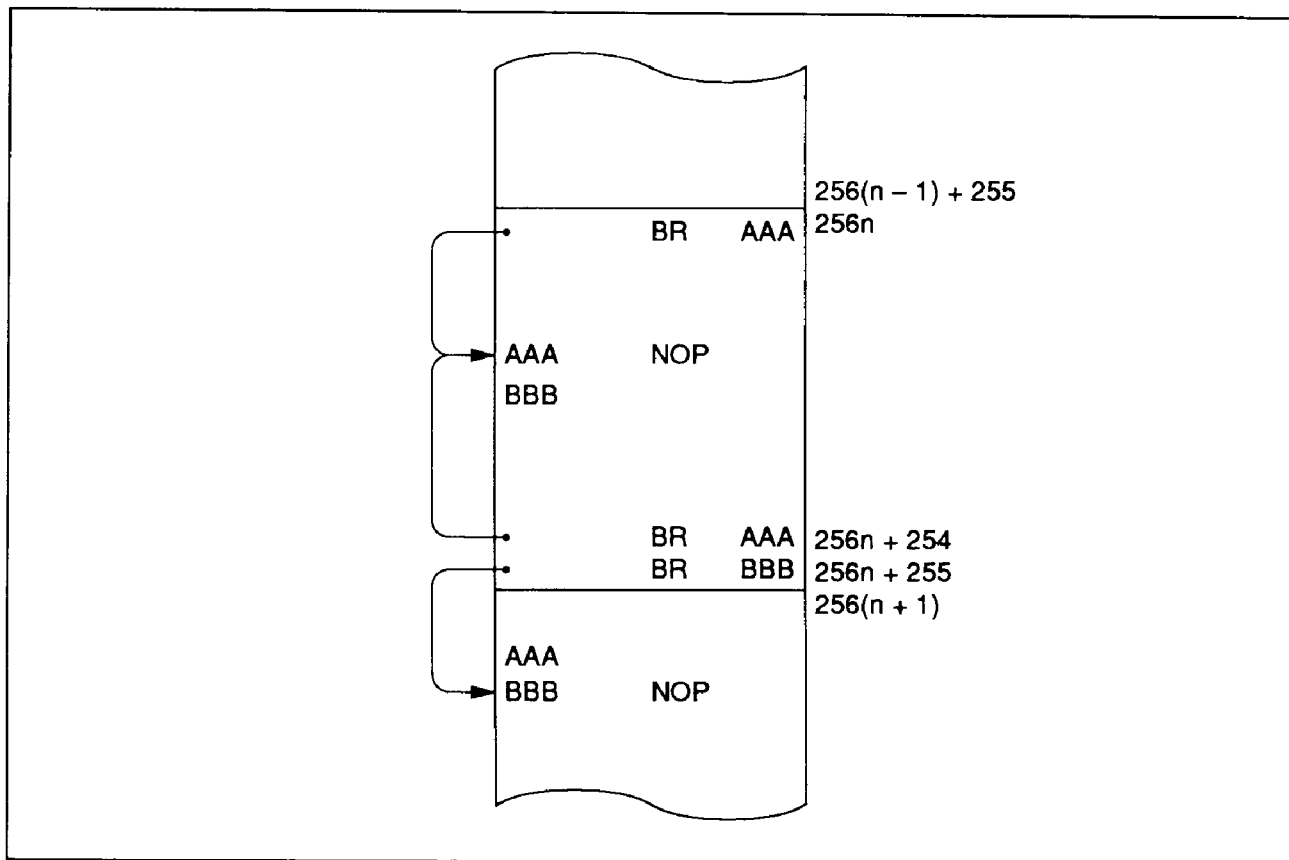

Figure 67 Branching when Branch Destination is on a Page Boundary
**Current Page Addressing Mode:** The MCU has 64 pages of ROM with 256 words per page. A program can branch to any address in the current page by executing the BR instruction. This instruction replaces the eight low-order bits of the program counter ( $PC_7$ – $PC_0$ ) with eight-bit immediate data. If the BR instruction is on a page boundary (address  $256n + 255$ ), executing that instruction transmits the PC contents to the next physical page, as shown in figure 67. This means that the execution of the BR instruction on a page boundary will make the program branch to the next page.